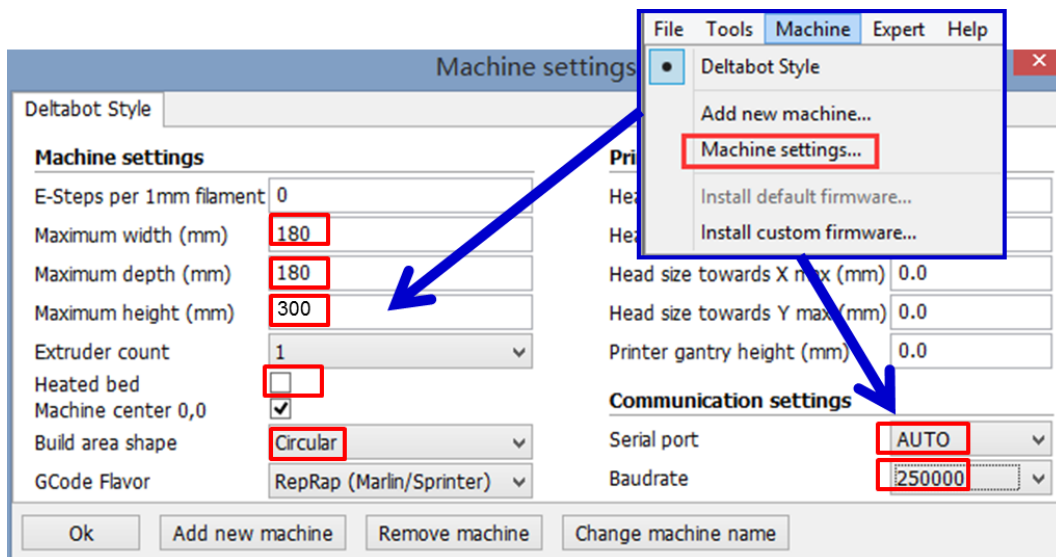

Fig. 41
Step 3. Printing parameter settings. At the home interface of Cura, click 'Machine' and in the drop-down menu choose 'Machine settings' to open the setting interface as Fig. 41 shows. Change the maximum width, maximum depth and maximum height into 180, 180 and 300 respectively (those values should be 230, 230 and 300 if you are setting up the ANYCUBIC Kossel Plus). Leave the 'Heated bed' box empty to suit the current machine version. The serial port can be AUTO, or choose the right port when you have several devices connected. The baud rate is suggested to be 250000. Then click 'OK' at the bottom left to return to home interface.